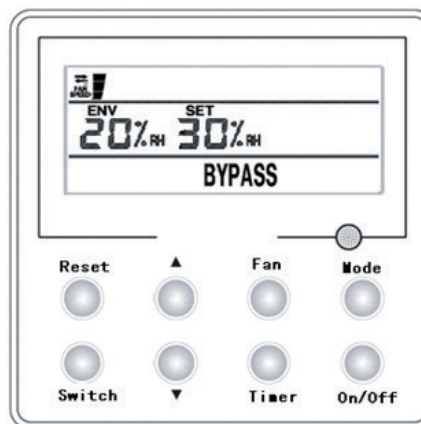

Fig.7
■ Running Mode Setting (Fig.7)